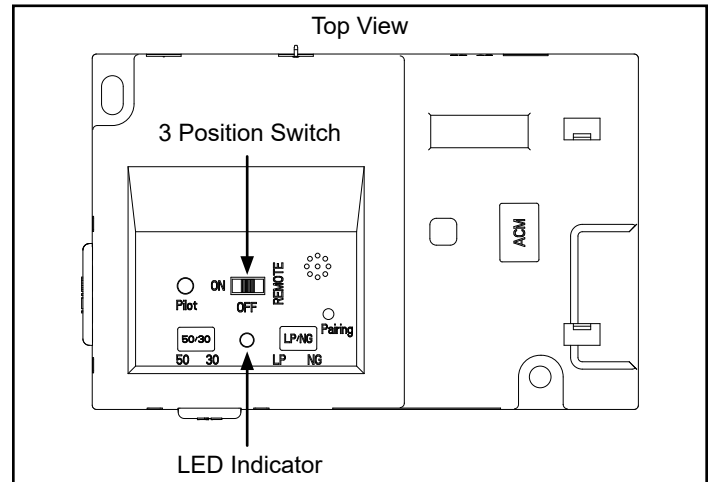

Figure 4.6 - IFT-ECM
1. The Electronic Control Module (IFT-ECM) has a three-position ON/OFF/REMOTE selector switch that must be set for proper operation, Figure 4.6. When changing switch positions, it is important to pause in each position for 1-2 seconds.